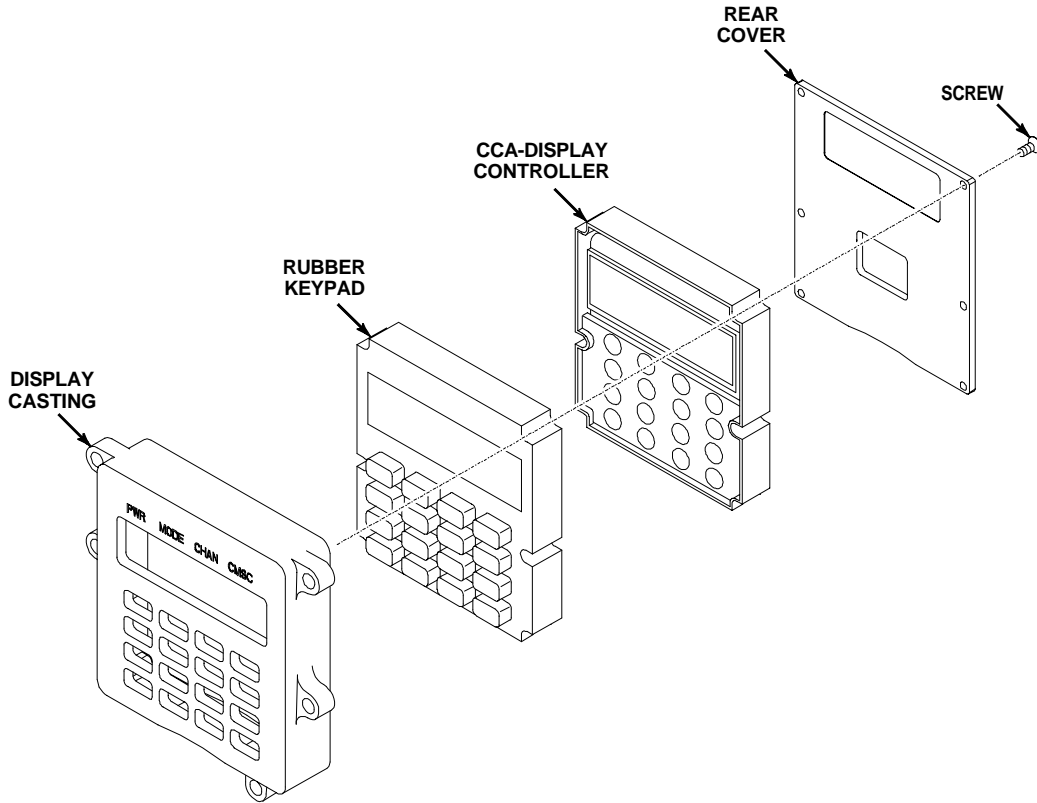

Figure 2. Disassemble/Assemble Display/Keypad Assembly.
5. REPAIR PROCEDURES. The following instructions provide detailed information for repair of Display/Keypad Assembly A3266120-1. Refer to figure 2.